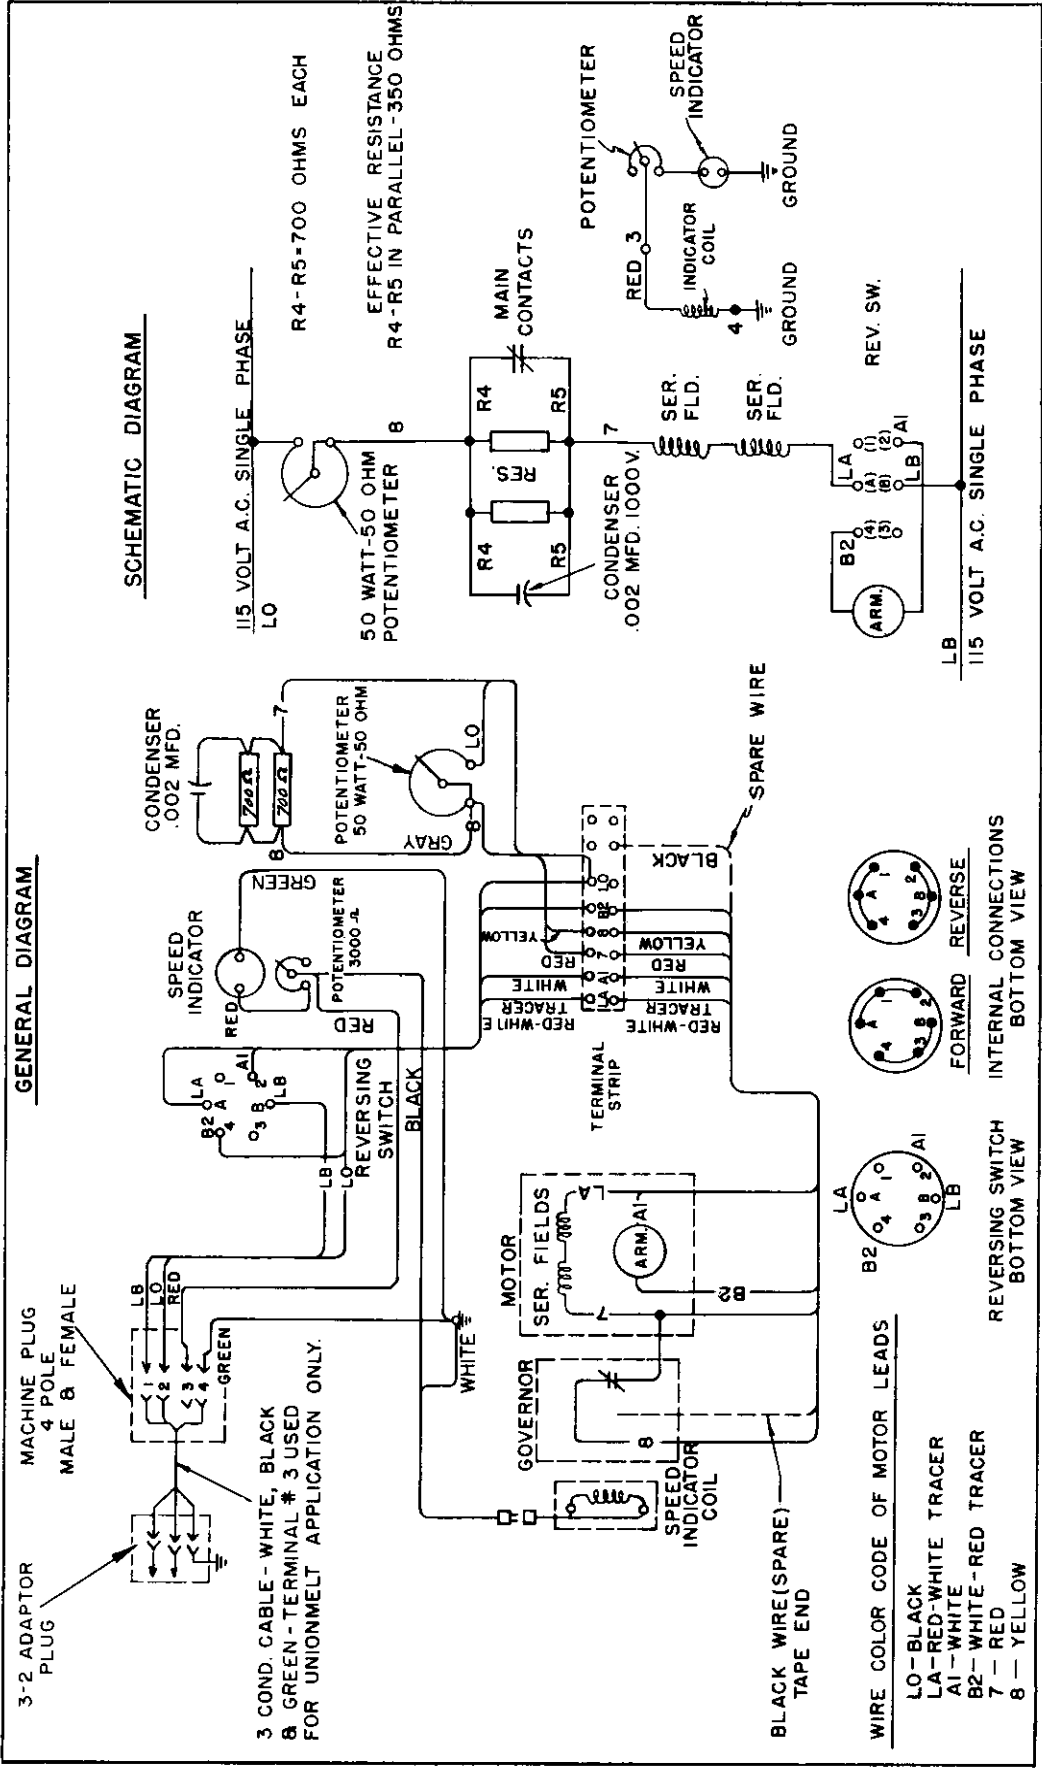

FIG. 28 - CM-37 (Series 2) Electrical Wiring Diagram
4. Withdraw the screws from the motor switch mounting plate, and lift out the switch. Connect a jumper from LB to A1 on the switch. (Figure 28) Note that these terminals on the switch are marked "B" and "2."